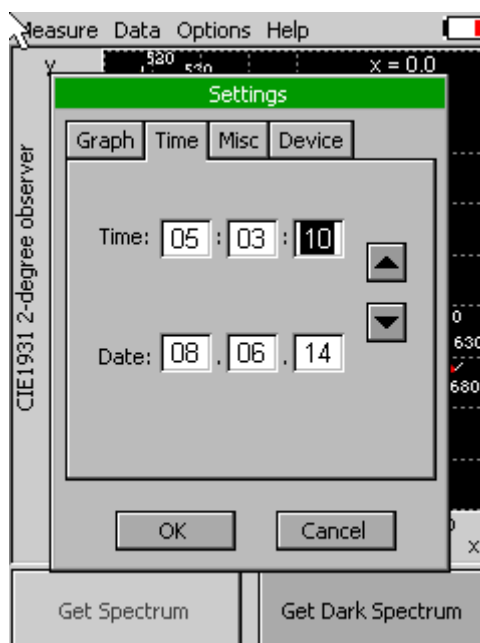

Fig. 13 Time setting.
- **Time** - displays actual time and date (all data files are stored by time and date signature). To change time and/or date specifications touch on one of the values and adjust it using the arrows (Fig. 13).